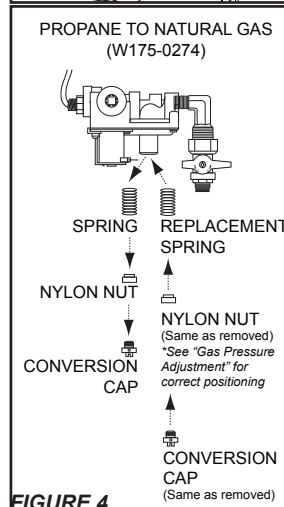

FIGURE 4
6. Remove the conversion cap from the valve using a slot screw driver. (FIGURE 4).